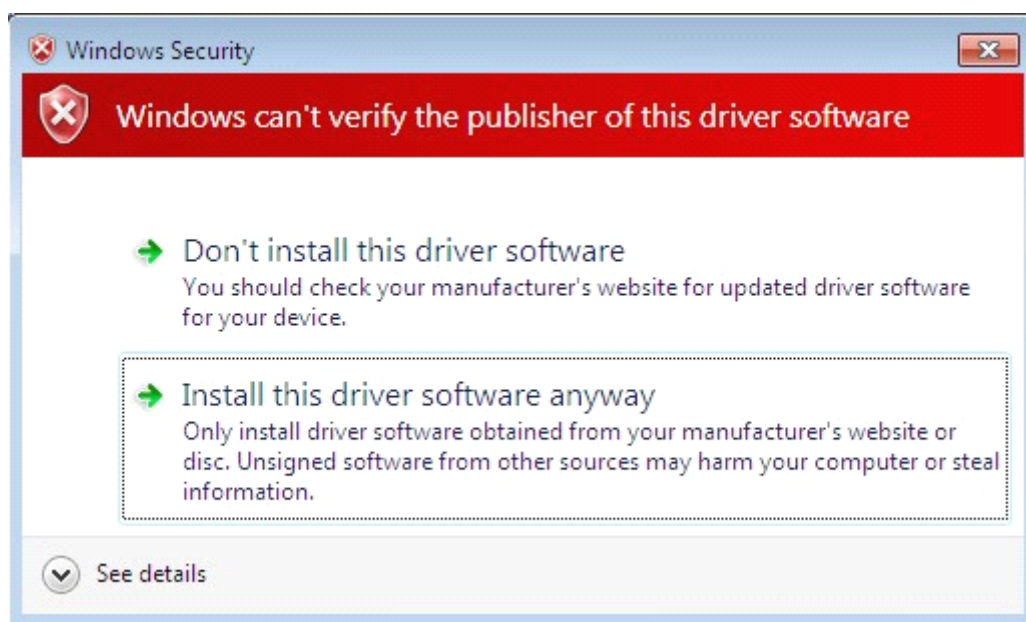

Figure 2-24: Driver installation
- Choose “Always install this driver software”. See Figure 2-24.